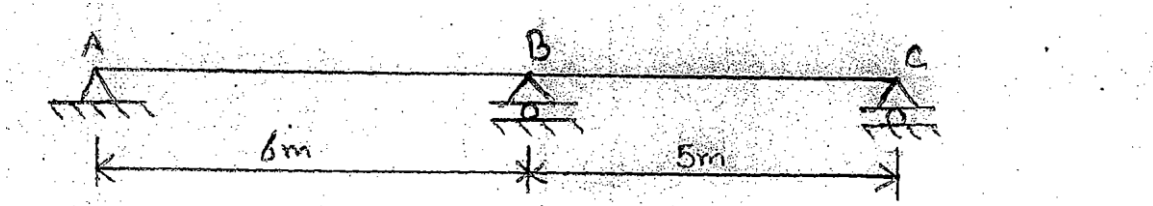

Fig.6
7. Find the influence line diagram for reaction at B in the continuous beam shown in figure 6